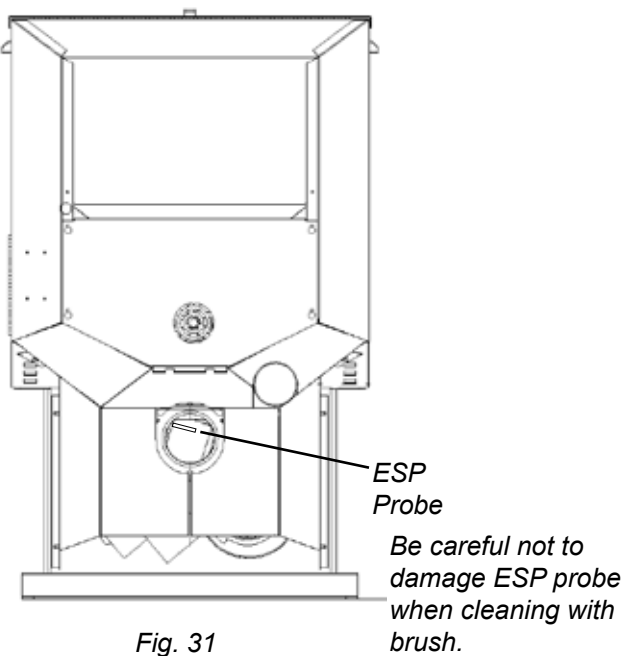

**Fig. 28**
7. Remove combustion blower cover by turning the blower cover latch vertical, see Fig.28. Sliding the cover out of the slot on the left. This will expose the combustion blower wheel and flue outlet.